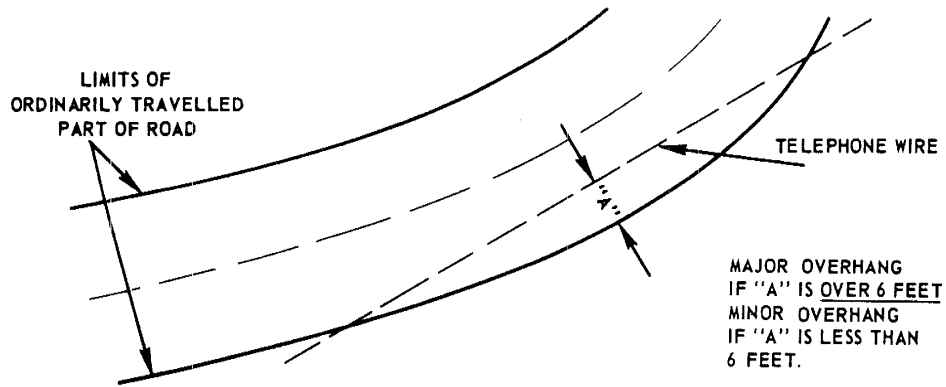

Fig. 4
**1.06** Clearance requirements for drop wire overhanging the traveled part of roads vary somewhat with the degree of overhang involved. (See tables in Part 2 and Fig. 4.) Eliminating or reducing road overhang will frequently permit smaller ground clearances.